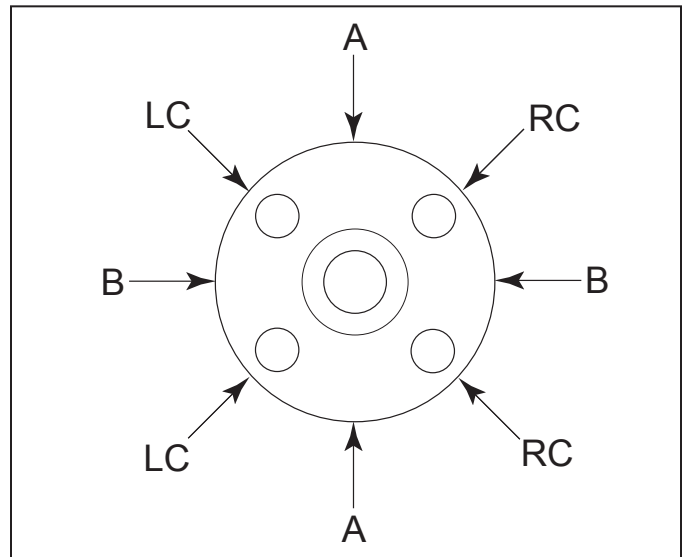

Figure 11-32 Angular Alignment Check
**IMPORTANT:** Angular misalignment conditions may require adjustment of one front mount, both front mounts, the trunnions, or any combination. Figure 11-32 (Angular Alignment Check) and the following table are to assist in the alignment process.
**IMPORTANT:** If a “pinch” occurs in the “A” quadrant (Figure 11-32), correcting the condition will require an equal adjustment on the front mounts. If a “pinch” occurs in the “C” quadrant, an adjustment will be made on the opposing front mount. If a “pinch” occurs in the “B” quadrant, a trunnion adjustment is required.